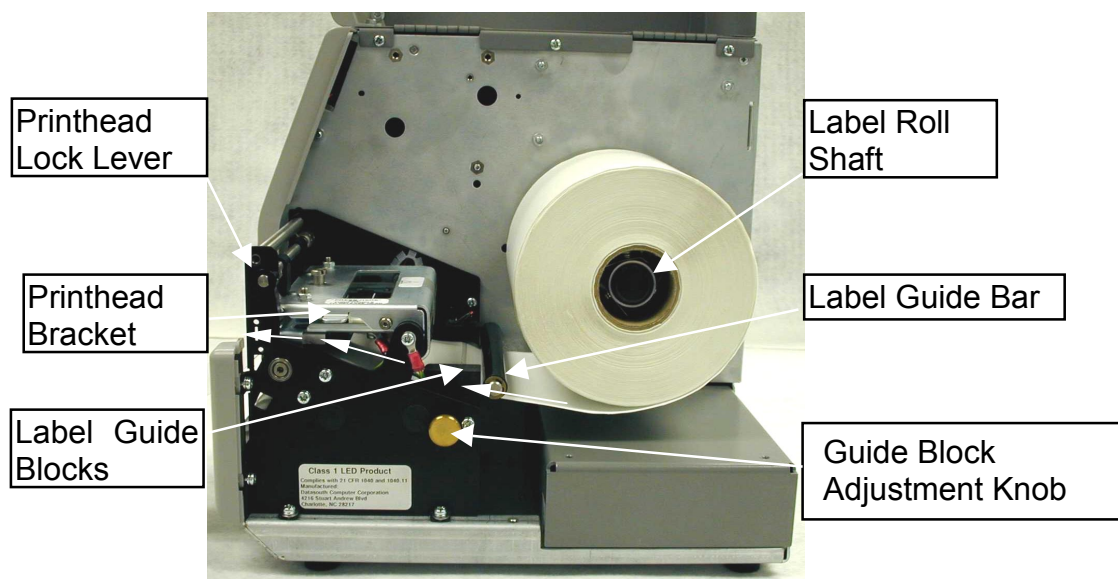

Figure 3 – Label Roll Feed Path
Figure 3 outlines the media path for loading the label stock.
3. Before mounting the roll of labels on the Label Roll Shaft, run the end of the new label roll between the Label Guide Blocks, under the Printhead Bracket, out beyond the front of the printer. The labels must be facing up when going underneath the printhead. Refer to Figure 3 for the proper label path.